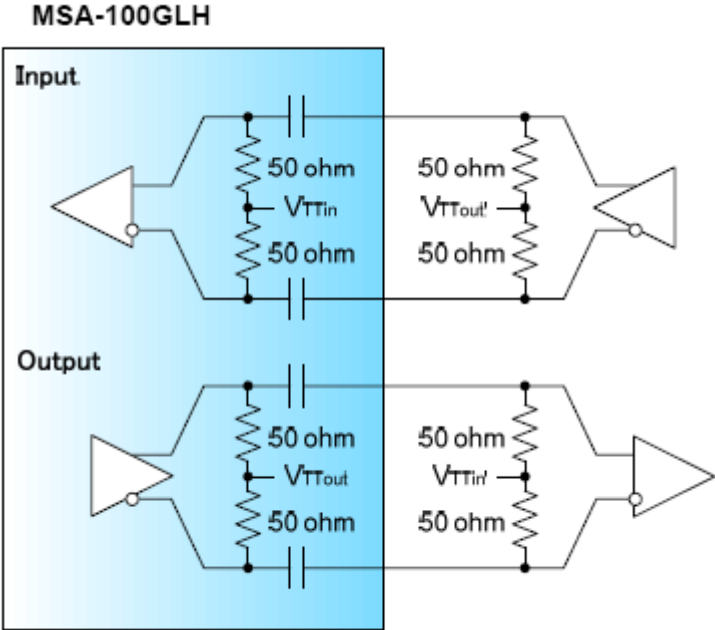

Figure 2: High Speed I/O for Data and Clocks
**8.3.1 Transmitter Data (TX)**
The Transmitter Data (TX) signals shall comply with CEI-11G-MR Low Swing option as per Clauses 9.3.1. and 9.3.1.2 [N2]. Full Swing support is not required. The recommended termination of the TX pins is given in Figure 2.
**8.3.2 Receiver Data (RX)**
The Receiver Data (RX) signals shall comply with CEI-11G-MR Clause 9.3.3 [N2]. The recommended termination of the RX pins is given in Figure 2.
The REFCLK shall be CML differential AC coupled and terminated with 50 Ohm internal  $V_{TT}$  within the MSA-100GLH, as shown in Figure 2. A frequency locked relationship is required between the transmit data lanes (TX/TXDSC) and the reference clock (REFCLK). There is no required phase relationship between the data lanes and the reference clock. The REFCLK frequency shall not deviate from nominal by more than ±20 ppm. Detailed reference clock characteristics for the MSA-100GLH are given in Table 2.
applications1. This rate is optimized for triggering high-speed sampling scopes. Clock termination is shown in Figure 2. TXMCLK characteristics are summarized in Table 3.
The MSA-100GLH optionally may supply a receiver monitor clock (RXMCLK). This clock is intended to be used as a reference for measurements of the module receive data. If provided, the clock shall operate at 1/16 of the receiver electrical lane data rate. The RXMCLK may optionally operate at 1/64 of the receiver electrical lane data rate. Clock termination is shown in Figure 2. RXMCLK characteristics are summarized in Table 3.